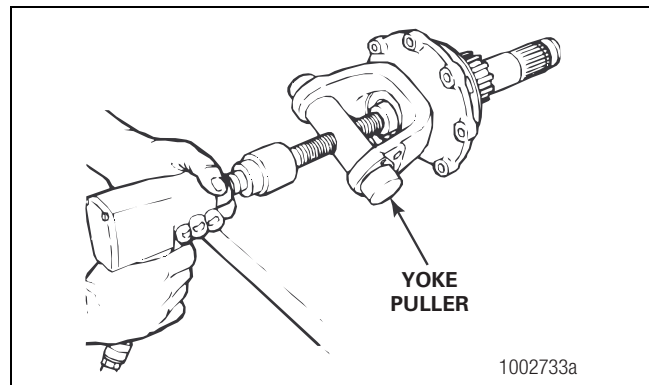

Figure 3
6. Remove the yoke nut and washer. Use a puller tool to remove the yoke or flange from the shaft. Do not use a hammer or mallet, which can damage components. Figure 3.